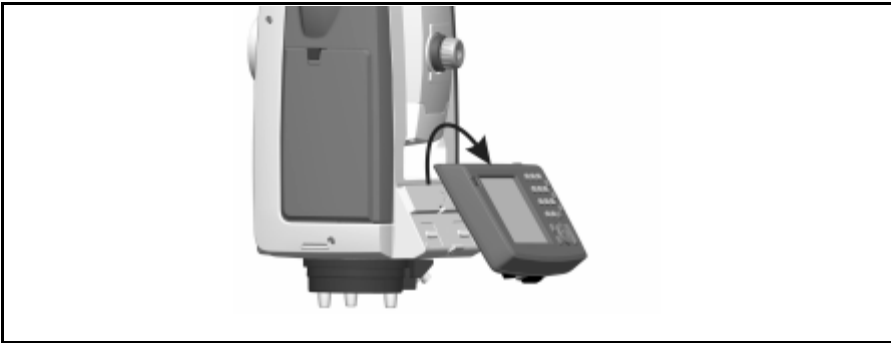

Figure 3.5 Removing the CU from the instrument
3. Unhook the top of the Trimble CU from the top edge of the panel attachment and remove it from the instrument. Figure 3.5.